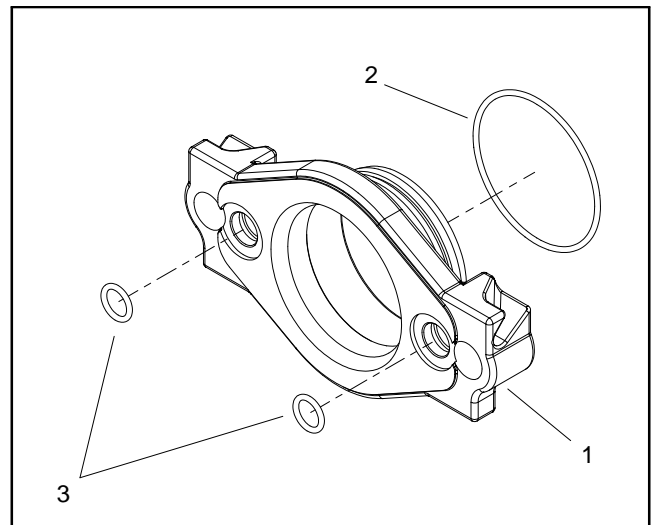

Figure 28
4. Remove O-rings as necessary from motor adapter (Fig. 28).